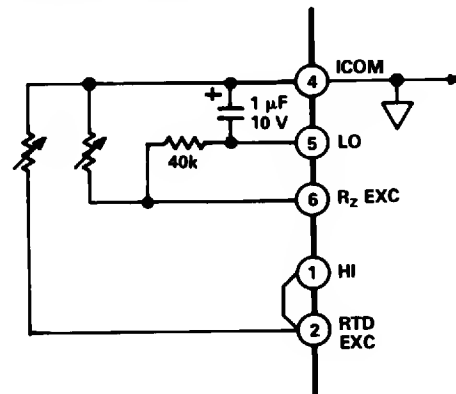

Figure 4. Differential RTD Measurement
**Other RTD Measurements.** The 1B41 can be configured for making differential measurements using 2-wire RTDs. As shown in Figure 4, the two RTDs are connected between ICOM and HI and LO. The current sources at  $R_Z$  EXC and RTD EXC create a differential signal across HI and LO that is proportional to the difference in resistance of the two RTDs. The following equation shows how to calculate  $R_G$  for applications where hardware linearization is not desired.